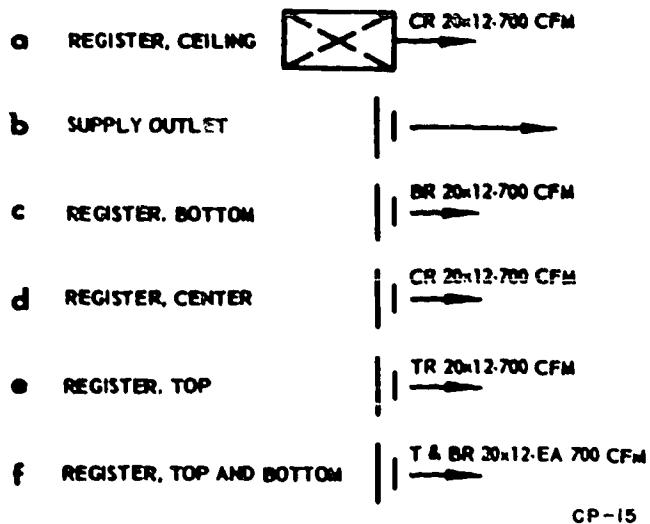

Figure 1-16. Symbols for registers.
**Symbols for Registers.** Symbols used to indicate locations of registers on working drawings are shown in figure 1-16. In sheet metal work, a register is a supply outlet for heating and cooling systems. The register is the portion of the duct system that covers the duct outlet. Registers usually are finished to match the room and often have turn blades to control the direction of airflow.
**Register, ceiling.** This symbol, shown in a of figure 1-16, is used on plan views to indicate the location of ceiling registers. The arrow and the two diagonals indicate a supply outlet. The other information shown indicates that the outlet is a ceiling register of the given dimension of airflow. The 700 cfm indicates a supply of 700 cubic feet of air per minute.
**Register, wall.** The symbols, shown in b through f of figure 1-16, are similar except for specific uses. The basic symbol for a supply register is shown in b; the other symbols are variations identified by letters such as BR for the bottom register used near floor level, CR for a center register used about halfway between floor and ceiling level, and TR for a register used near ceiling level.